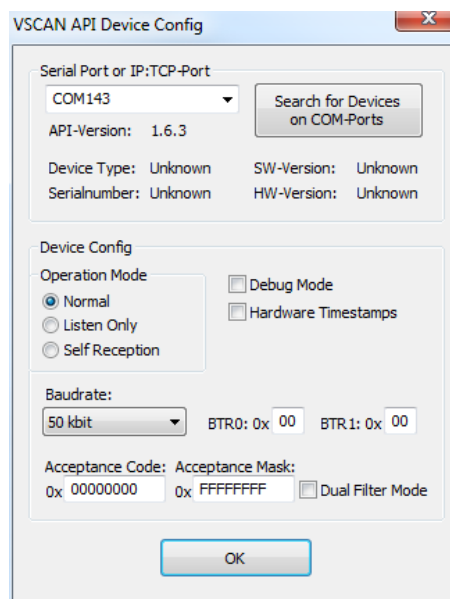

Figure 23: BUSMASTER: Configure Device
4. Click „Advanced” button to configure USB-CAN Plus device (see Figure 23). Setup COM143 as Serial Port, set Baudrate to 50kbit and Acceptance Mask to **0xFFFFFFFF**